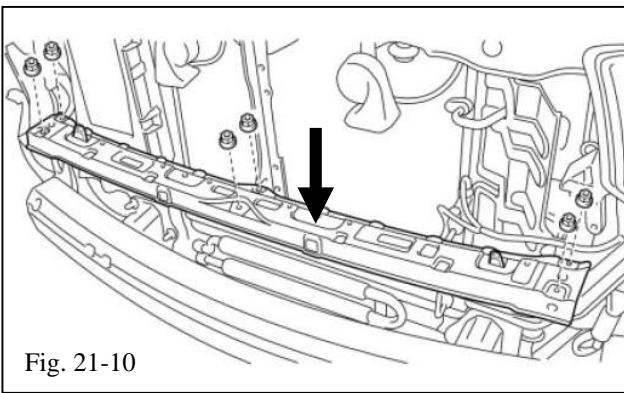

Fig. 21-10
- (6) Remove the 6 nuts and the front upper center bumper retainer (Fig. 21-10).